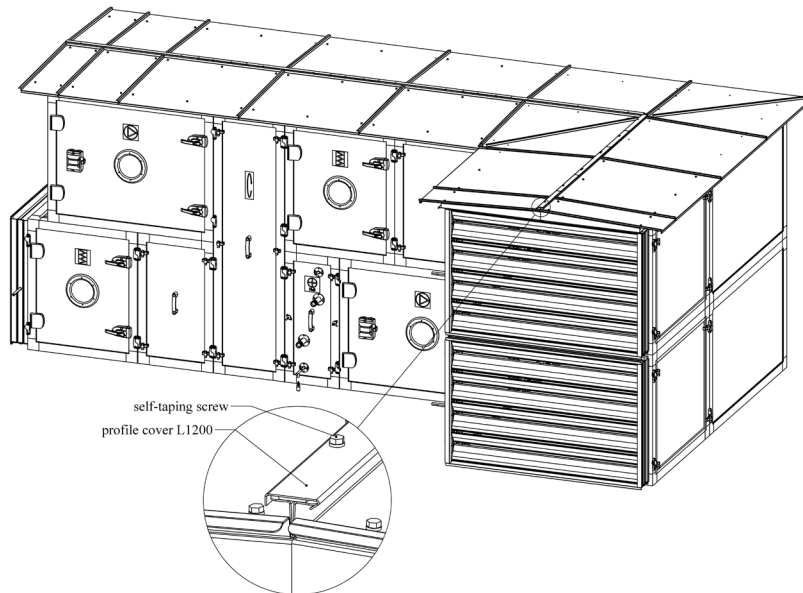

Figure 9.7
8. Fit the profile cover L1200 on segments in the middle and attach to the segments by self-taping screws supplied with the unit as shown in Figure 9.7. If it is too long, cut it.